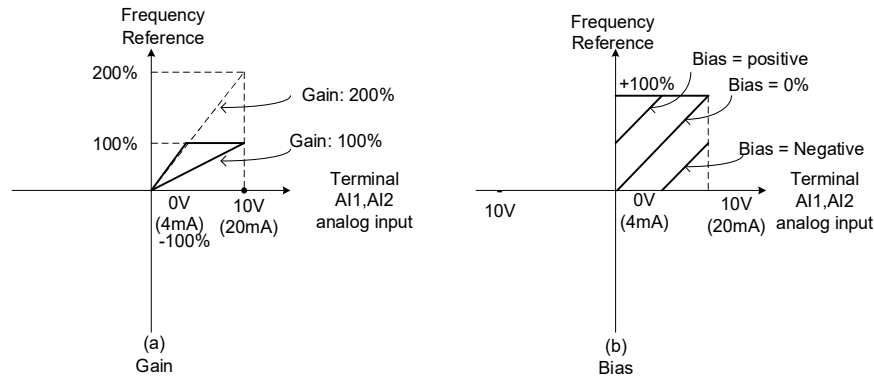

Figure 4.3.53 Incremental and bias voltage operations (used for frequency reference signal)
- Refer to Figure 4.3.53 on gain and bias voltage settings.